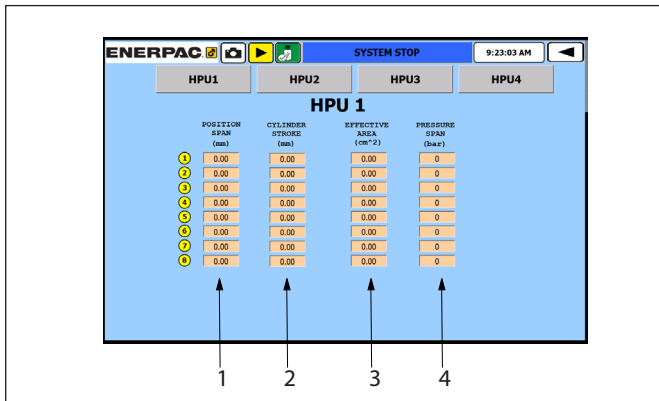

Figure 20: SFP Spans Parameters
- Hydraulic power unit: The user can select the HPU to apply the parameters (see Figure 20).
The user can access to the Spans Parameters screen pressing on the HPU icon. In the boxes the user can type the following data (refer to Figure 20):